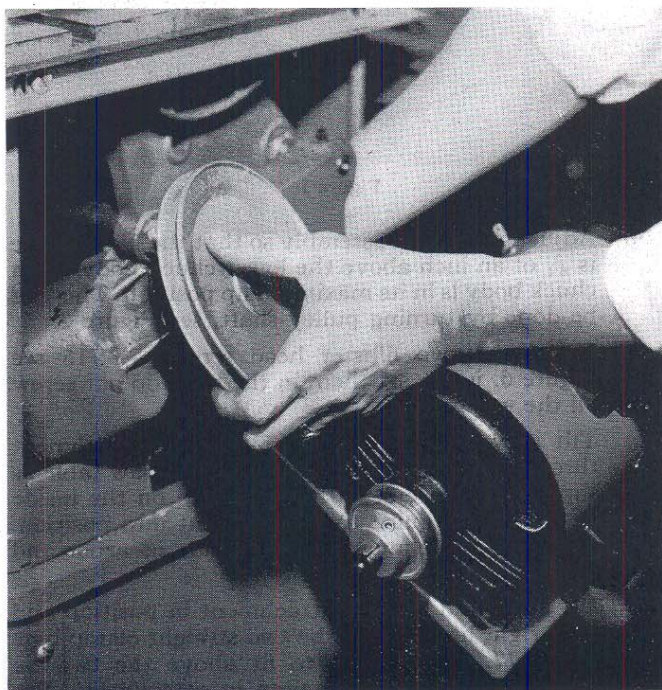

Figure 3
6. Tilt arbor 15 degrees and put saber attachment through opening on the motor side of saw table as shown in Figure 3, with right hand on the inside of the saw to guide the attachment into position. Pulley of attachment on same side as arbor and motor pulleys.